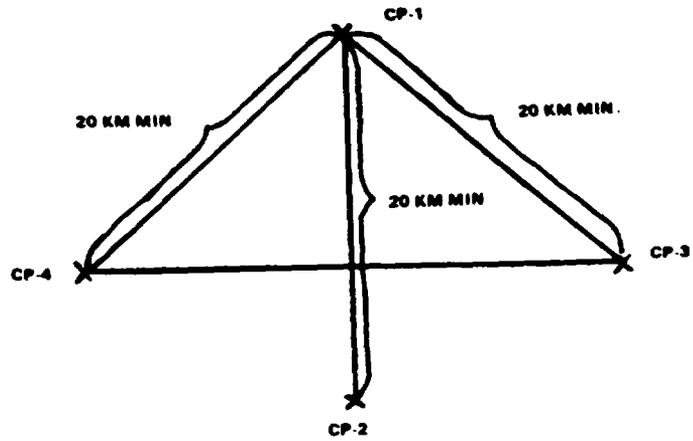

Figure 2-1. Test Course for Overhaul Accuracy Doppler
<p>(1) Verify proper system operation with MODE switch at TEST and display indicates GO.</p> <p>(a) Fly helicopter over surveyed test course (figure 2-1) at cruise airspeeds. The altitude should be low enough to minimize error in establishing position over checkpoints.</p> <p>(b) Enter magnetic variations, lateral and longitudinal coordinates of the checkpoints.</p> <p>(c) With the MODE switch in UTM, the DISPLAY switch in GS/TK and the FLY-TO-DEST thumbwheel in position "0", take off and observe that the MEM and MAL lights are extinguished and ground-speed (GS) and track angle (TK) are reasonable.</p> <p>(d) Set the DISPLAY switch to DIST/BRG/TIME and the FLY-TO-DEST thumbwheel to position "1".</p>	<p>J22, 25</p>